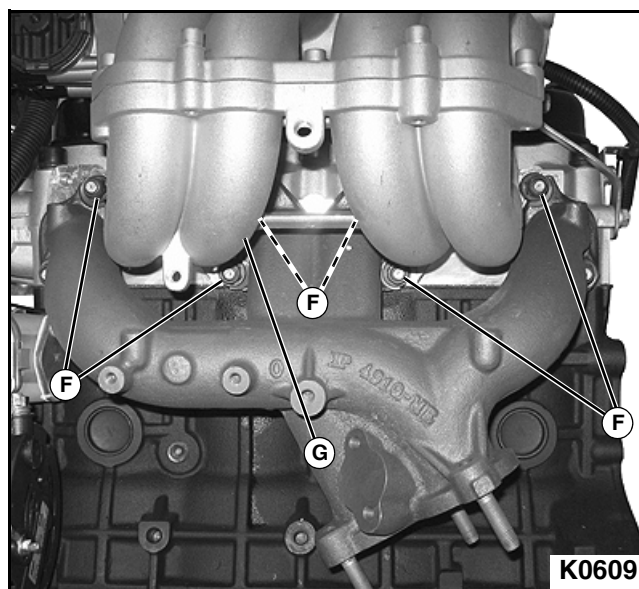

Figure 3-58
6. Remove six intake manifold flange nuts (F) and remove intake manifold (G) from cylinder head. **See Figure 3-58.**